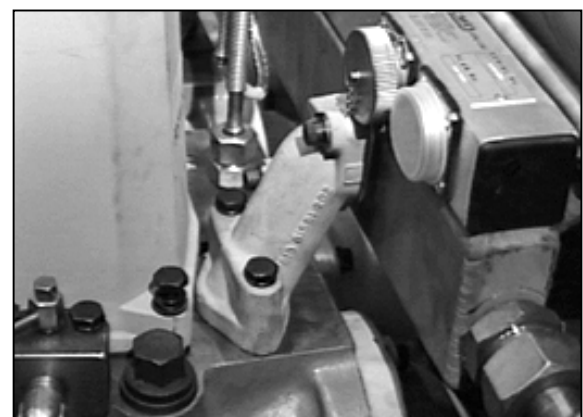

Fig.3 Disconnect the jacket outlet rail from the cylinder head
4. Disconnect jacket outlet rail from cylinder head (**Fig.3**).